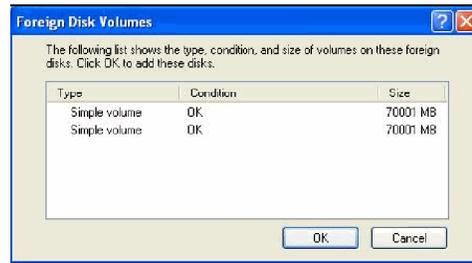

Figure 17: Foreign Disk Volumes dialog box
4. In the Foreign Disk Volumes dialog box, select OK. See Figure 17.